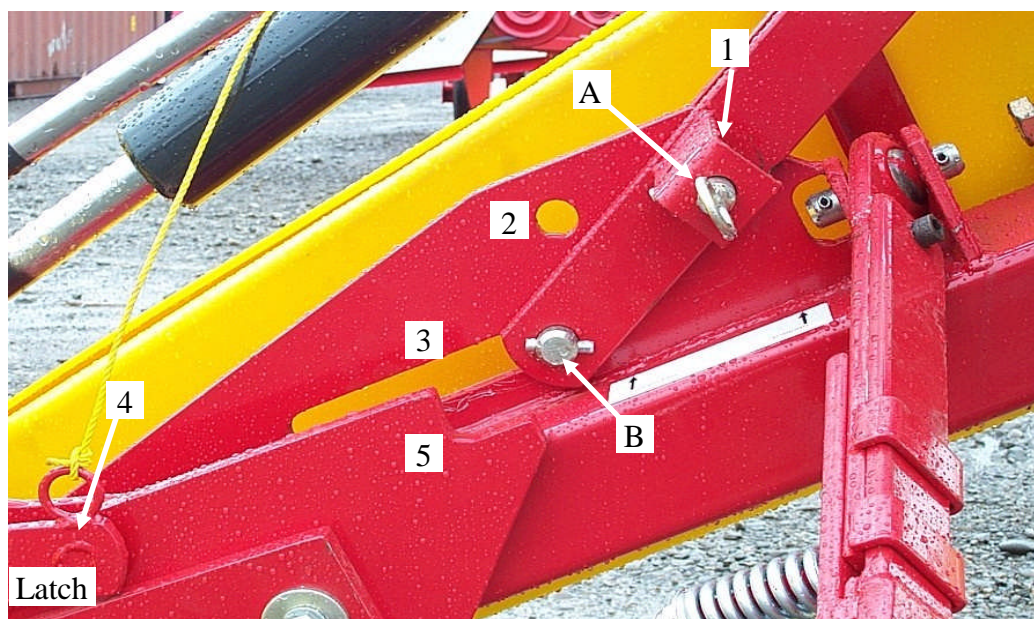

Figure 4 - Picture showing pin positions for mower use
Refer to Figure 4 for a picture of the sliding mechanism and pin positions.
1. Ensure limit locking pin [A] in Figure 4 is locked out.
6. Continue to raise the cutter bar until the latch drops into position [5] on Figure 4.
3. Release the limit locking pin ([A] in Figure 4).